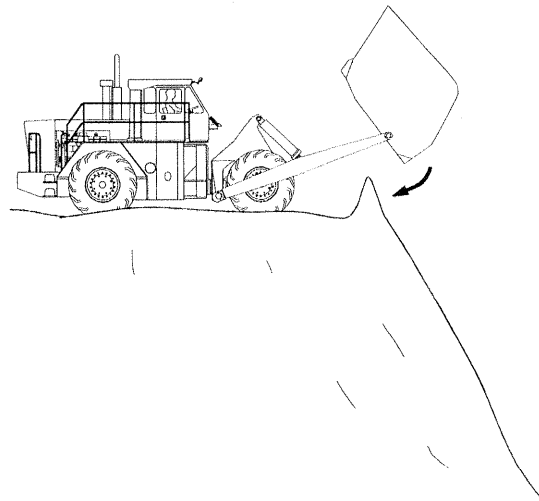

Fig. 4-12
2. You can back blade with the bucket tilted forward, with no damage to the machine. See Fig. 4-12.